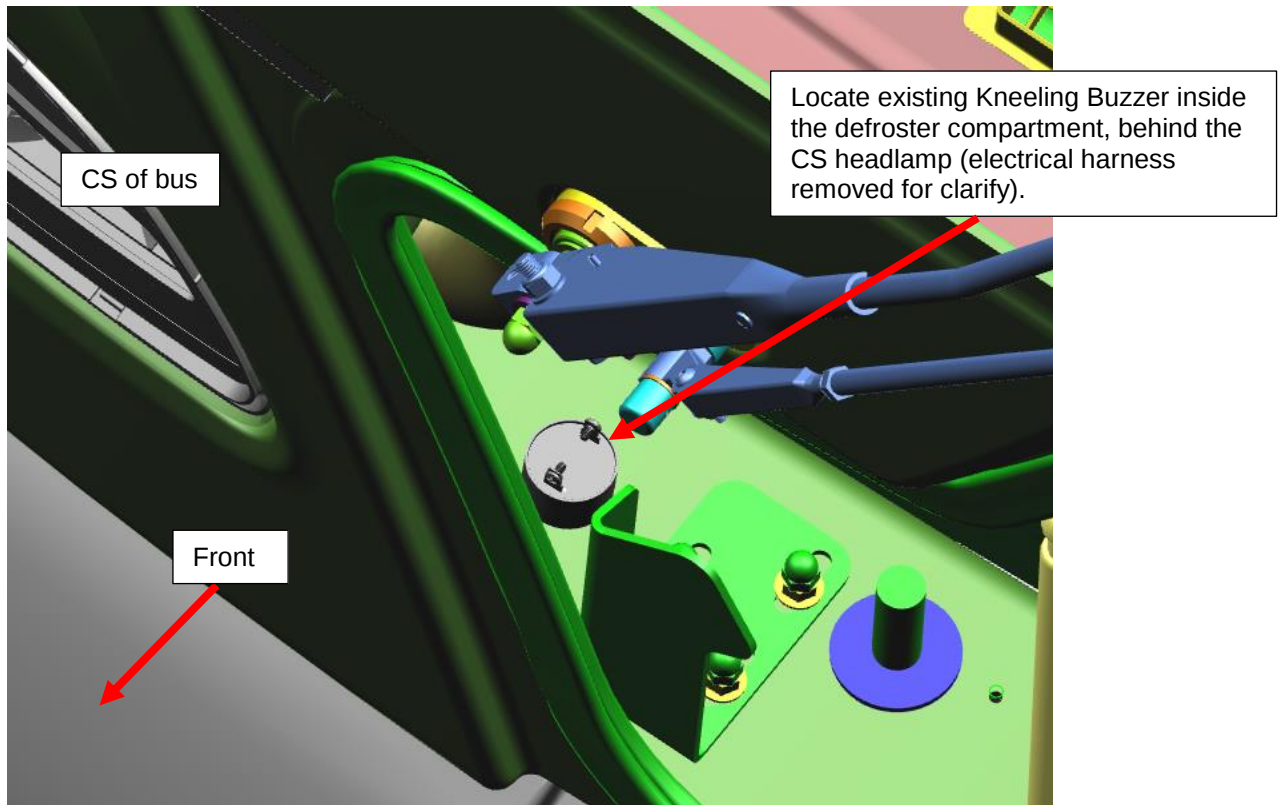

Figure 2 – Gain access to defroster compartment and remove existing kneeling buzzer
4. Proceed to the front exterior of the bus and open the Defroster Door. Locate the Kneeling Buzzer inside the defroster compartment, near the CS headlamp. Refer to Figure 2.